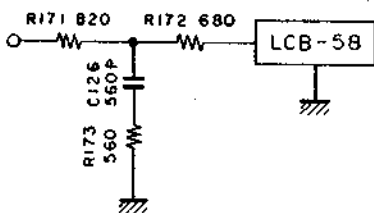
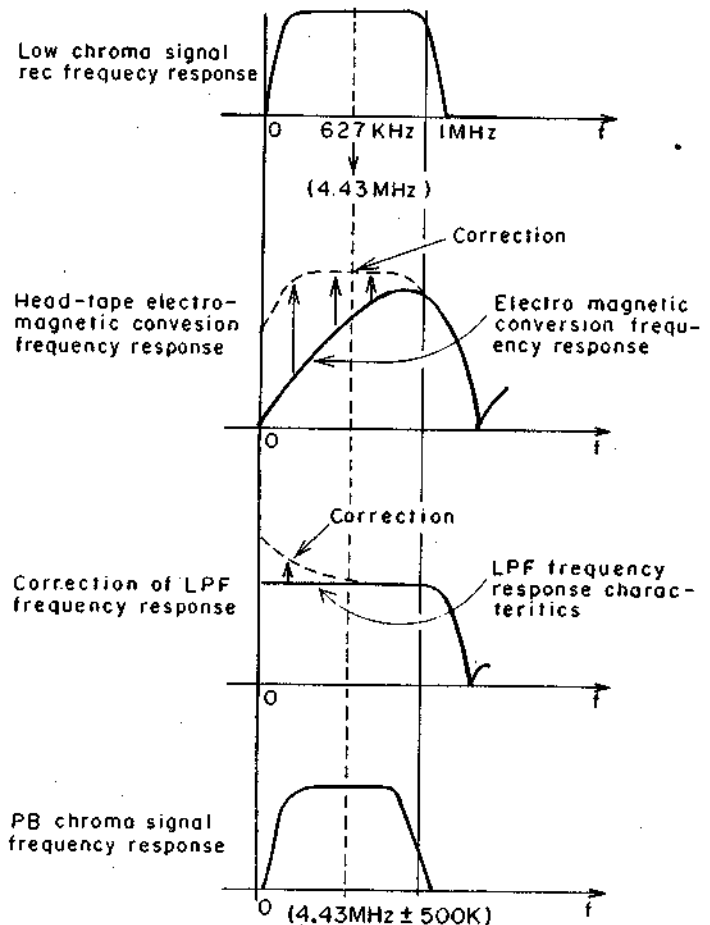

Fig. 87
Fig. 88
There is a C and R network in the vicinity of REC LPF as shown in Fig. 87, and it is to correct the frequency characteristic in PB and REC total (Same for R149 and C108 in the vicinity of PB LPF LCB-59) (Fig. 88)
Both CR networks are designed to stress the low band (eliminating the high band). The frequency characteristic of chroma is preferably flat at $4.43 \text{ MHz} \pm 500 \text{ kHz}$. When it is converted into the low chroma, it must be flat at $627 \text{ kHz} \pm 500 \text{ kHz}$. But the electromagnetic conversion characteristic of the head - tape system is 6 dB/oct and the higher the band, the larger the output, but when a certain level (around 1 MHz) is reached, the output becomes smaller due to the gap loss (Fig. 88 (b)). Therefore, it is necessary to correct this characteristic so that it becomes almost flat in REC and PB total. This is done by the C and R network in the vicinity of LPF of PB and REC.
LCB-60 is to take out the chroma signal of 4.43 MHz from the output ⑫ of BAL MOD during PB. (Fig. 89). Here is also provided L31 (47 μ) behind the filter to correct the frequency characteristic same as above. (When 4.43 MHz is converted into low band, the band frequency is reversed in plus and minus. Therefore, the correction by L31 as in Fig. 89 is the correction in the same direction as the correction in Fig. 88.